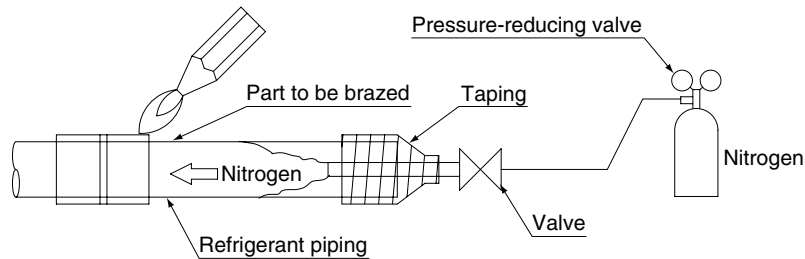

Fig. 5
- When brazing refrigerant piping, begin working after replacing the nitrogen (*1) or perform brazing while nitrogen is flowing in the refrigerant piping (*2) (**Refer to Fig. 5**), and at the end made the indoor unit and BS unit flare or flange connections.